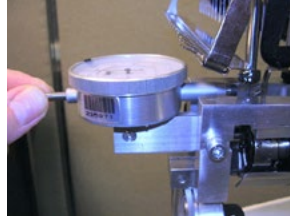

Figure 3
8. YOU MUST PULL OUT THE PLUNGER of the closest needle dial indicator and KEEP IT HELD OUT as you hit the Frame Back button on the keypad of your Machine machine. See Figure 3 for an example of holding the plunger back.